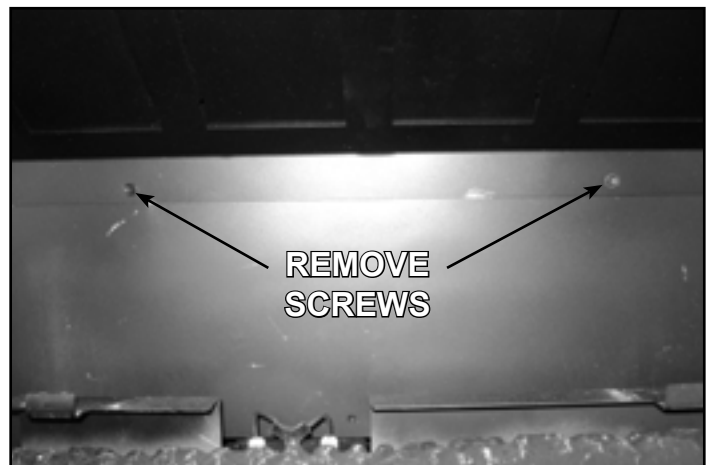

Figure 10. Remove Upper Baffle
12. Remove upper baffle by removing two screws as shown in Figure 10.